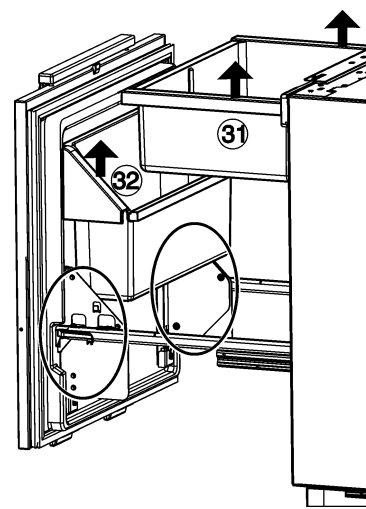

Fig. 26
- ▶ Lift up the vegetable drawer *Fig. 26 (31)* and bottle shelf *Fig. 26 (32)*.
- ▶ Reinsert the bottle shelf *Fig. 26 (32)* and the vegetable drawer *Fig. 26 (31)*.